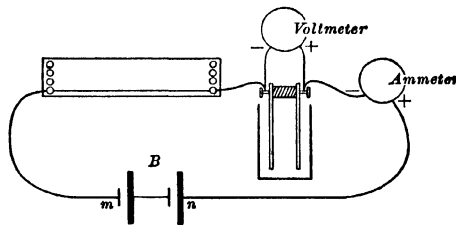

FIG. 73
**III (b). The storage battery.** Make a cell like that shown in Fig. 73, with two well-cleaned lead plates dipped into a solution made of one part sulphuric acid to ten parts water.